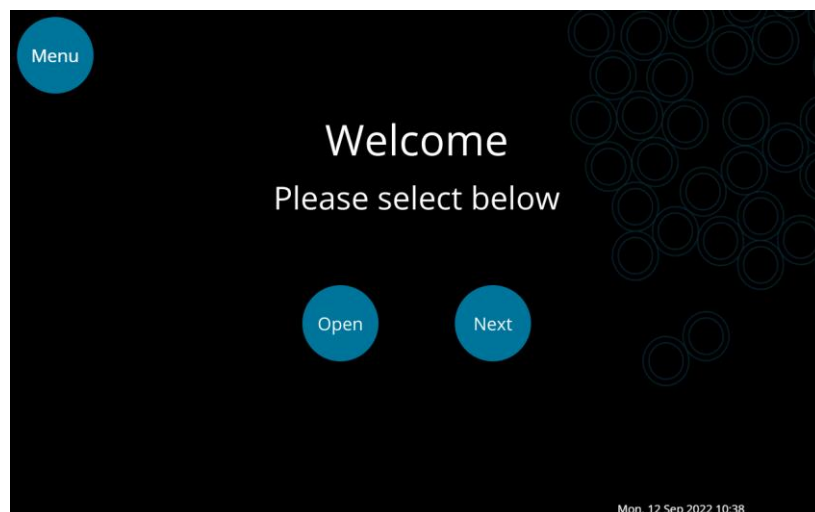

Fig. 3.4. The Xdrop DE20 Sort Cartridge covered with foil and the Xdrop DE20 Sort Gasket.
2. Cover the cartridge with the Xdrop DE20 Sort Gasket (Fig. 3.4). Orient it using the angled corner on the gasket, which should line up with the angled corner on the cartridge. Insert the pins first, then pull the gasket gently over the T-hooks.